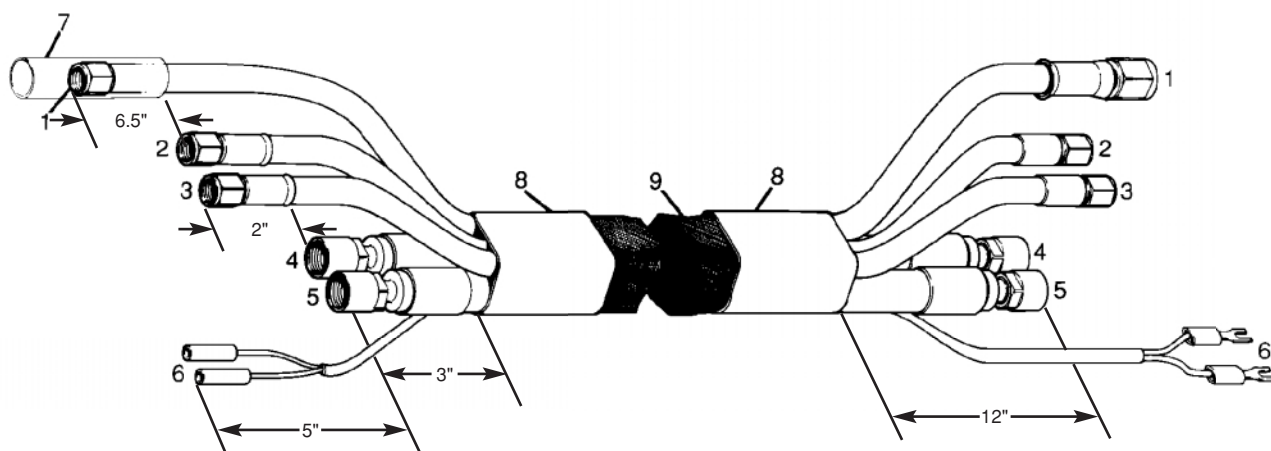

Figure 3-5 MAX200 Rev 1 90° Hand Torch Lead Set Assembly
To remove and replace individual leads from the torch lead set, perform the following procedure and see Figure 3-5.
2. Ensure the lead lengths (1-6) at both ends are in accordance with those called out in Figure 3-5.
4. Slide the sheath (9) over the torch lead ends and pull the sheath until it approximates the length requirements called out in Figure 3-5.
6. Slide the shrink tubing (8) over each end of the sheath. Heat the shrink tubing until it tightly bonds around the sheath and torch lead.